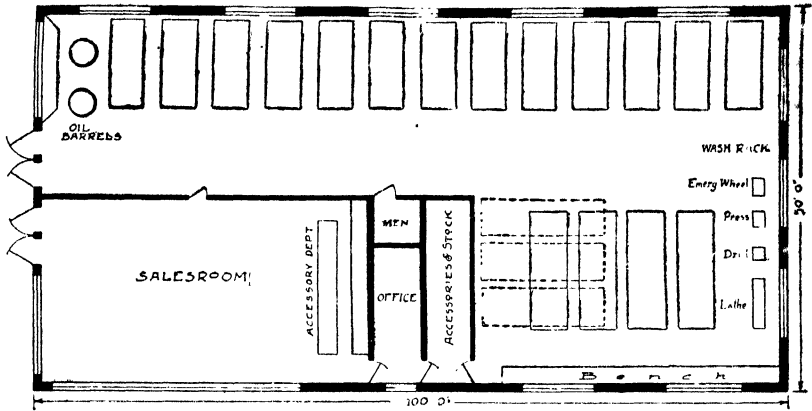

Fig. 7. Different Arrangement of Small Garage with Show Rooms and Offices
*Layout 5.* Another 50 x 100 floor plan is shown in Fig. 7. This plan provides for the grouping in one unit, on the right side
*Modification of Layout 5.* Considering the diversity of other things provided for, this layout seems excellent. For the man who might like this arrangement, yet who does not wish to give any space to car sales, the layout shown in Fig. 7 can be modified. The oil barrels can be removed and the accessory department moved to the extreme front, while the accessories and parts stock room can be eliminated. If the garage man sold only small accessories—the little things which could be handled at a simple counter or from ordinary shelves on the wall back of the counter—he would need little or no stock room, as such storage room as was needed for excess stock could be found under the counter, on the top shelves, or elsewhere. By this rearrangement, as can easily be figured, 8 or 9 cars may be added, making the total 25 to 26 cars, without changing the front or general good arrangement; in short, the layout shown in Fig. 7 provides for a car-agency arrangement, and also storage for 17 or 18 cars. The same layout without the agency space can be arranged for the storage of 25 or 26 cars.
In making his initial plans and the building layout, the garage man must balance his income from storage plus that from car sales against the increased income from storage alone, that is, in the two layouts just shown in Fig. 7 and its suggested change, he must figure out whether he will make more money from a 17- or 18-car garage and a sales agency, or from a 25- or 26-car garage and no sales agency. The accessory sales are about the same in the two cases, although possibly in the case of having a car agency, he might sell more accessories to the people who bought cars from him. This question, however, is problematical.
It compares unfavorably with the preceding layout, the rearranged Fig. 7, which was only 50 x 100 and was rearranged to